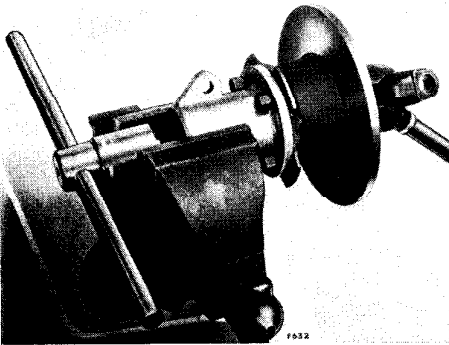

Fig. 22.
8. Remove the bolt (34) securing the lower wishbone to the chassis and take out the bolt (7) to release the rear road spring eye.
10. Fit the compression clamp (tool S328) to the rototflex rubber coupling (54) and detach the coupling from both drive shafts by removing six bolts (56) (53).
11. Remove brake drum, hub nut (65) and washer (66). Using hub removal tool S109B with thread protector S109C3, push the outer drive shaft from the hub assembly as shown in Fig. 22, taking care not to lose the shims (64), and space collar (63) fitted to the neck of the outer drive shaft.
1. Press out shaft as shown in figure 22 and referred to in No. 11 above.